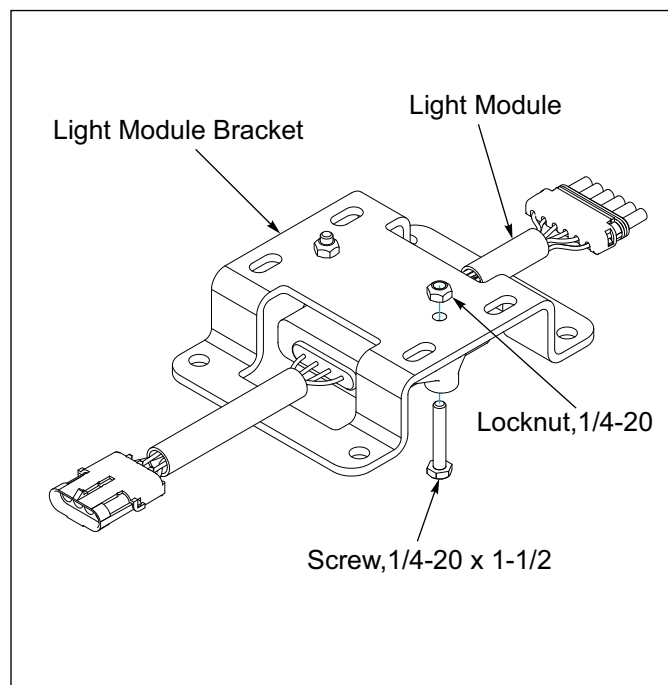

Figure 2-27: LED Module and Bracket
5. Attach the Light Module to the Light Module Bracket using two 1/4-20 X 1-1/2 Screws and Locknuts. **See Figure 2-27.**